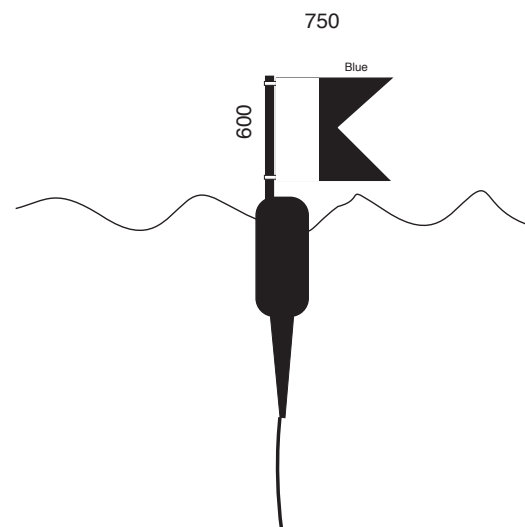

Figure 139.1 Dive flag
4. Redraw Figure 139.1 and colour in the correct colours.